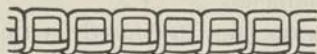

FIGURE 100.—Loose needle-thread tension (cross section).
(2) If the tension on the bobbin thread is too tight, or if that on the needle thread is too loose, the bobbin thread will lie straight along the under side of the material (fig. 100).